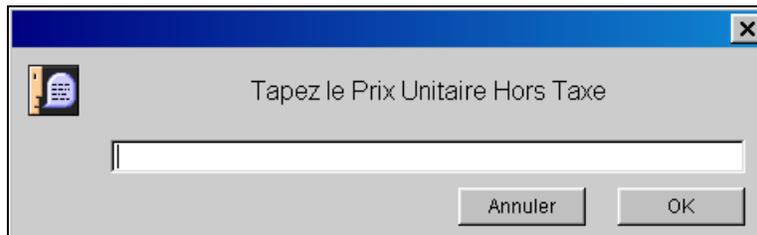

Figure 9: Entering the net price tax for fixed price operations
- Click in the "**Net Price**" area (only for fixed price operations), a dialogue box appears (figure 9).